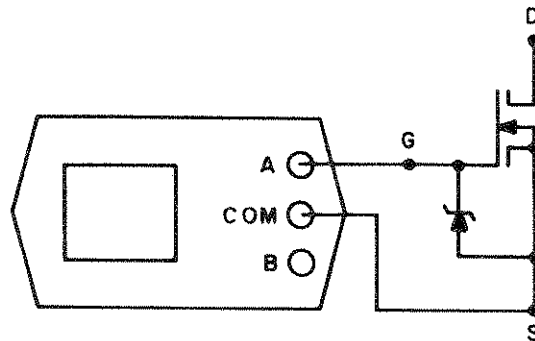

Figure 4-22. Tracker Connections to the Gate and Source
**TESTING GATE AND SOURCE.** To test the gate and source of the VN10KM, connect the test probes to the gate (G) and source (S) terminals as shown in Figure 4-22. Note that the drain (D) terminal is not connected.